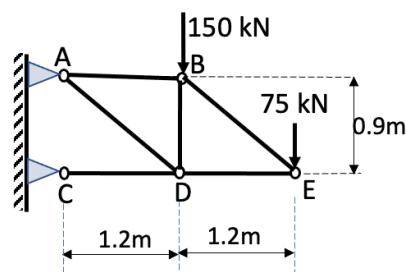

Figure Q3
3. For the steel truss shown in Figure Q3, what is the elongation of member AB given that AB is a solid rod of diameter = 20 mm and modulus of elasticity = 200 GPa. Select the closest answer from the following: